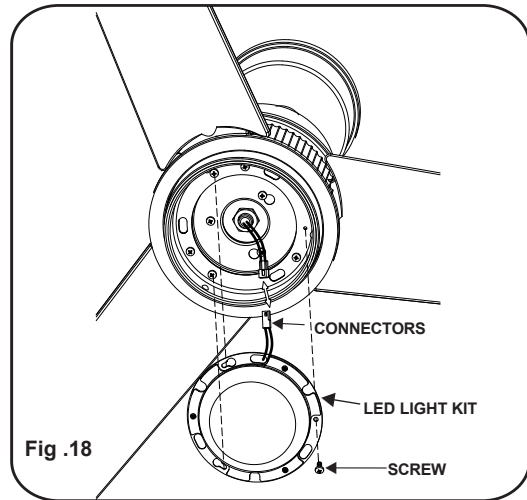

Fig .18
Step 2. While holding the LED light kit under the fan motor assembly, make the 2-pin wire connections: (Fig. 18)
Step 3. Place the key holes from the LED light kit over the 2 screws previously loosened from the mounting plate, turn light kit until it locks in place at the narrow section of the key holes. Secure by tightening the 2 screws previously loosened and the one previously removed. (Fig. 18)